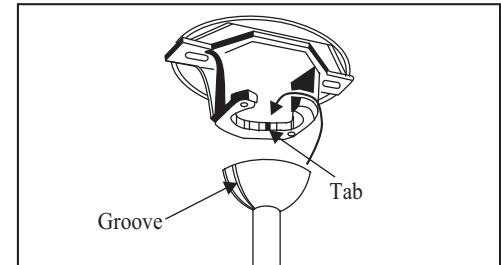

Figure 11
- Carefully lift the fan assembly up to the hanger bracket and seat the hanger ball in the hanger bracket socket. Make sure the tab on the hanger bracket socket is properly seated in the groove in the hanger ball (Figure 11). This will help to balance the ceiling fan.
THE TAB IN THE RING MUST REST IN THE GROOVE OF THE HANGER BALL AS FIGURE 11. FAILURE TO PROPERLY SEAT THE TAB IN THE GROOVE COULD CAUSE DAMAGE TO WIRING.